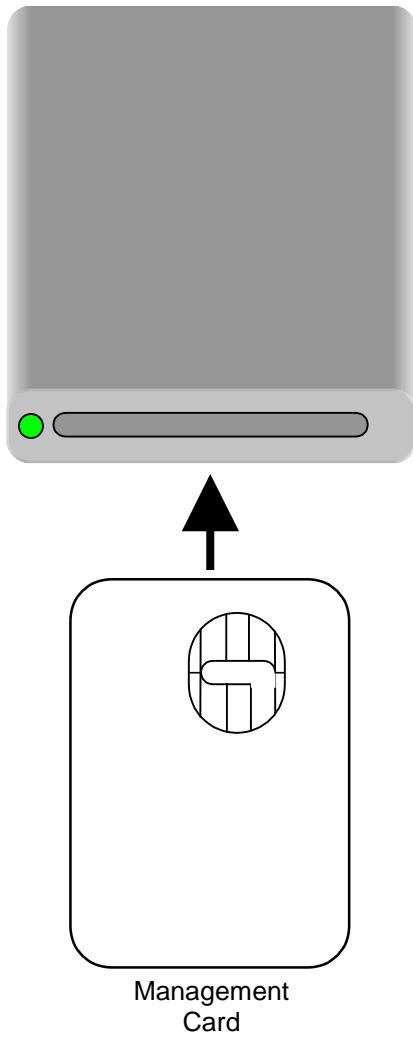

Figure 3.24 Inserting a Management Card into the PC Reader
5. Insert a Management Card into the PC Card Reader (Figure 3.24).